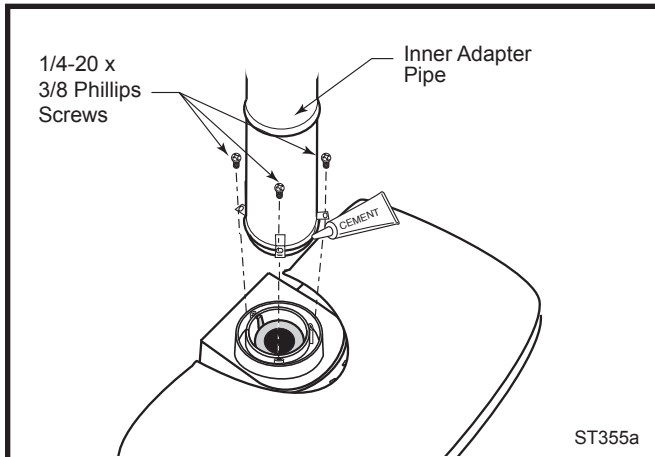

Fig. 20 Simpson Dura-Vent - install inner adapter pipe.
- Run a bead of sealant around the bottom end of the starter pipe and attach the assembly to the stove using three 1/4-20 x 3/8" Phillips screws provided in the parts bag. (Fig. 20)